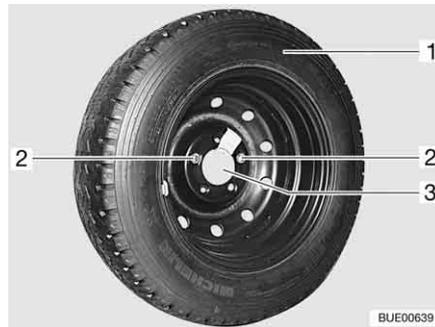

Fig. 249 Spare wheel support in the rear garage
- Loosen and remove both fixing screws (Fig. 249,2) with the on-board tool set.
- Remove the spare wheel (Fig. 249,1) from the support (Fig. 249,3).